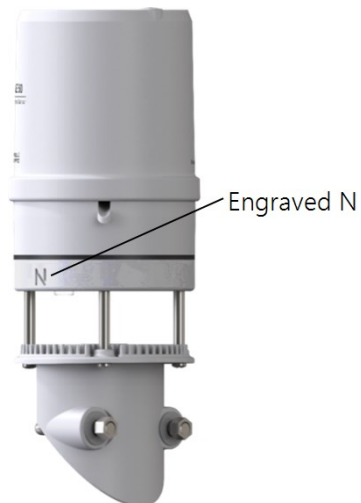

Figure 7-3. Engraved N on the ClimaVUE 50
3. Orient the ClimaVUE 50 so that the engraved **N** points to True North (Figure 7-3 (p. 17)). Determining True North and sensor orientation (p. 39) contains detailed information on determining True North using a compass and the magnetic declination for the site.